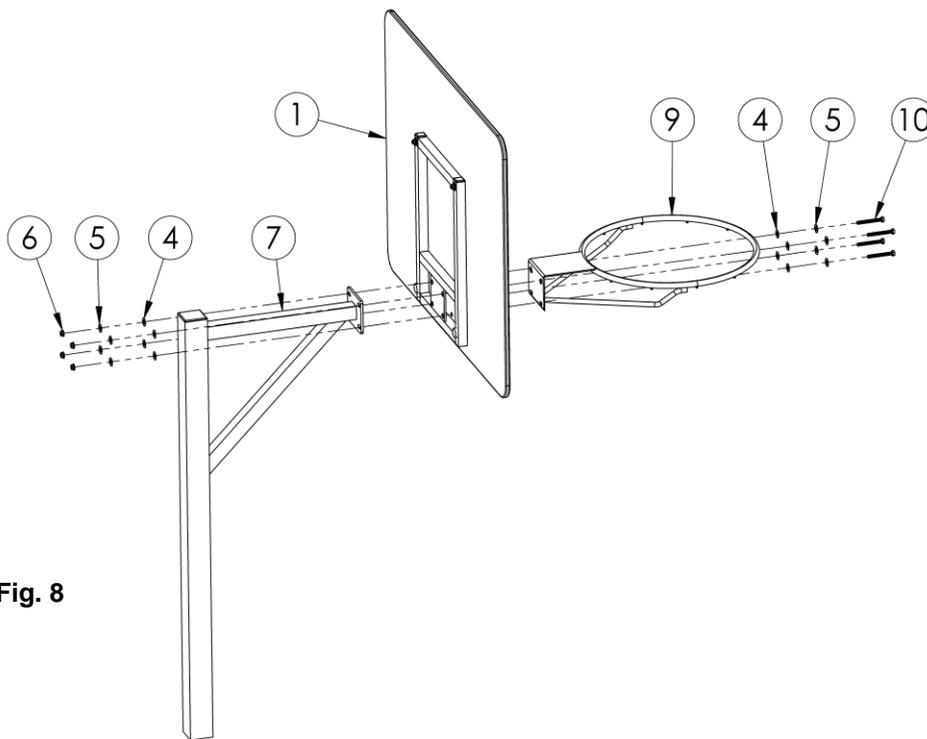

Fig. 8
2. Place the four bolts with hardware through the Rim (9): 5/16-18 X 2 3/4 HH TAP BOLT 316SS (10), 3/8" Flat Washer (5), and 3/8" Nylon Washer (4). Align the bolts and rim with the holes in the Acrylic Backboard (1). Next, continue the bolts through the mounting plate on the Vertical Posts (7), and tighten using the hardware shown: 3/8" Nylon Washer (4), 3/8" Flat Washer (5), and 5/16"-18 Flanged Nut (6). See **FIGURE 8**. Do not fully tighten the hardware. **Note: Use Anti-Seize (included) on all hardware pieces to prevent galling of the stainless steel.**